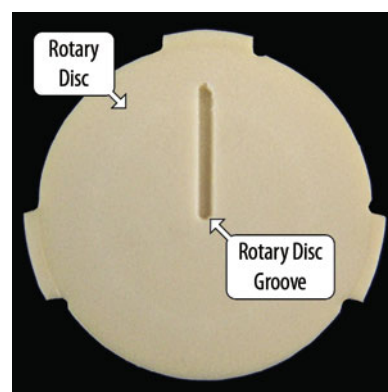

Figure 3. The rotary disk and groove.
- Remove and clean the rotary disk with dH₂O (**Figure 3**). Use a pipette tip to clean shaving in the groove on the rotary disk, then replace the disk into the valve.